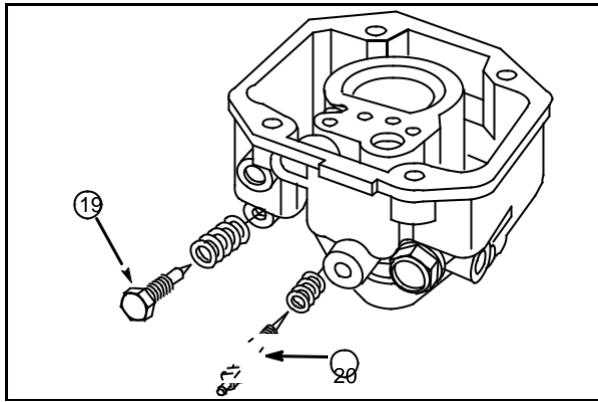

Fig. 110
Install bowl drain screw (19) and spring, **Fig. 110**.